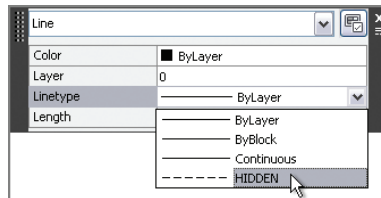

FIGURE 6.25 Changing a specific object property
6. Select the continuous line drawn in step 2, and change its Linetype property to Hidden (see Figure 6.25).